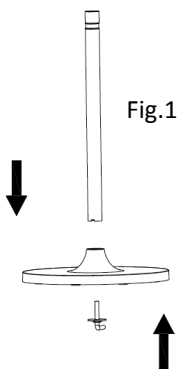

Fig.1
- a-.Put the column tube through the hole of base and fix them tightly by pipe screw (Figure 1).